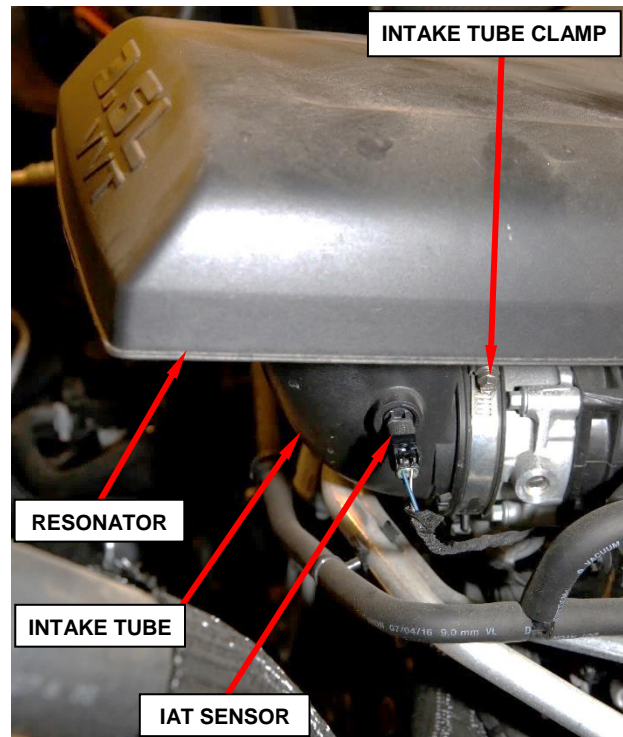

Figure 3 – 3.6L Air Intake Tube and Resonator Assembly
- a. Disconnect the Inlet Air Temperature (IAT) sensor (Figure 3).
- b. Loosen the clamp securing the resonator air intake tube to the throttle body (Figure 3).